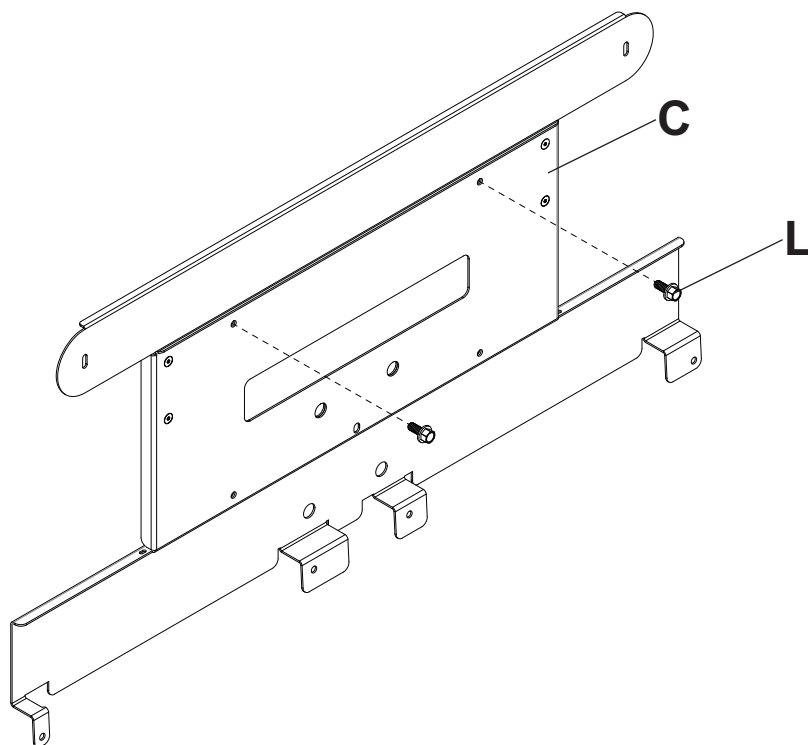

**FIG. 3.1
- 3** Assemble upper mounting plate (B) to lower mounting plate (C) using four 8-32 x 1/4" flat head thread forming screws (K). Use configuration as shown in figures 3.1 and 3.2.